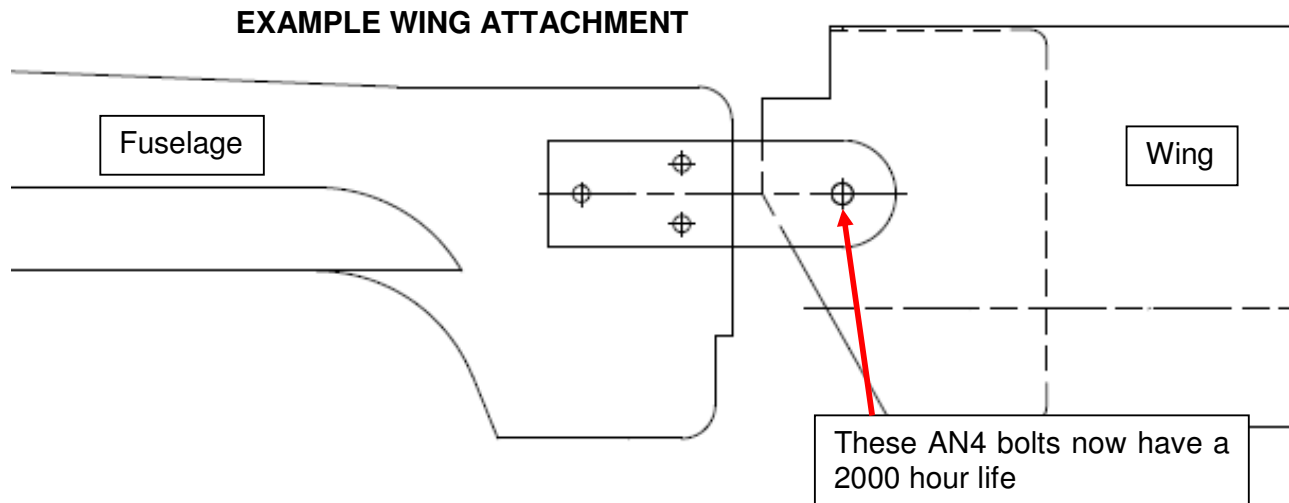

Figure 1 - AN4 wing attachment bolts - 2000 hour life
- As a precautionary measure a **2000 hour life** is now imposed on all AN4 wing attachment bolts, both the front and back. Figure 1 identifies this bolt.
- AN4 Bolts and nuts used in the position shown (both front and back attachments) in **Figure 1** must be replaced after 2000 hours' Time-in-Service (TIS).